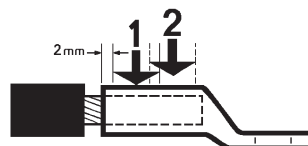

Fig. 3
**NOTE!** When crimping types KRD/KSD of 120 mm2 and KRF/KSF of 95 mm2, two crimps must be performed. See fig 3 below.